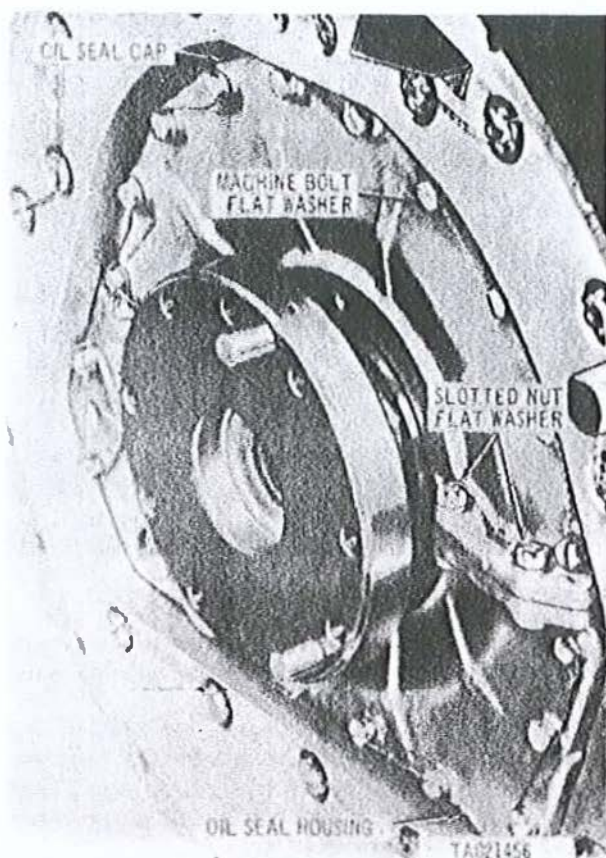
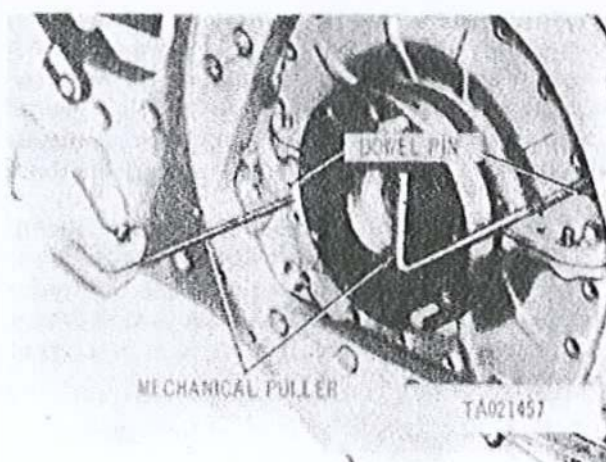
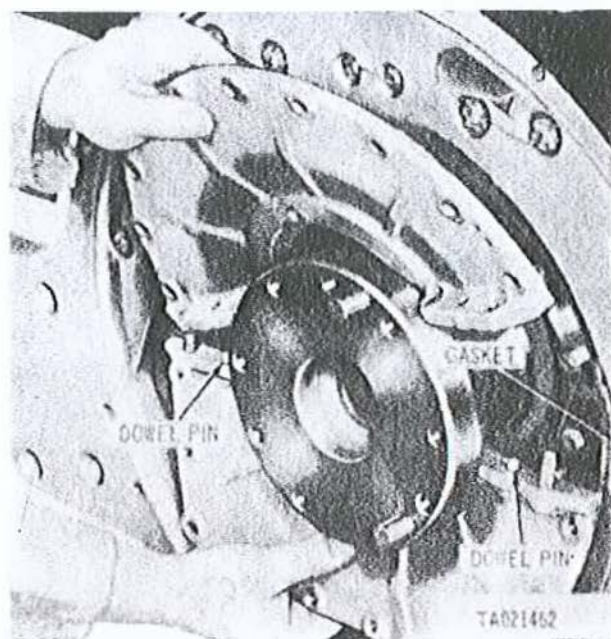

Figure 2-100. Removing or installing oil seal cap and oil seal housing mounting bolts.
Figure 2-101. Removing oil seal housing using mechanical pullers.
Figure 2-102. Removing or installing oil seal housing cap and housing.
(5) Cut locking wire and remove four slotted nuts and flat washers (fig. 2-100) attaching oil seal cap to oil seal housing. Cut locking wire and remove twenty machine bolts and flat washers attaching oil seal cap and housing to crankcase.
(6) Install two mechanical pullers, Part No. 5739997 (fig. 2-101) and pull cap and housing free of dowel pins. Remove mechanical pullers and separate oil seal cap from dowel pins in housing and remove housing cap and housing as shown in figure 2-102. Remove and discard gasket.
(3) Install oil seal housing and oil seal housing cap (fig. 2-102) using new gasket, over oil seal and on dowel pins. Secure oil seal housing cap and housing to crankcase with twenty bolts and flat washers (fig. 2-100). Secure bolts with locking wire.